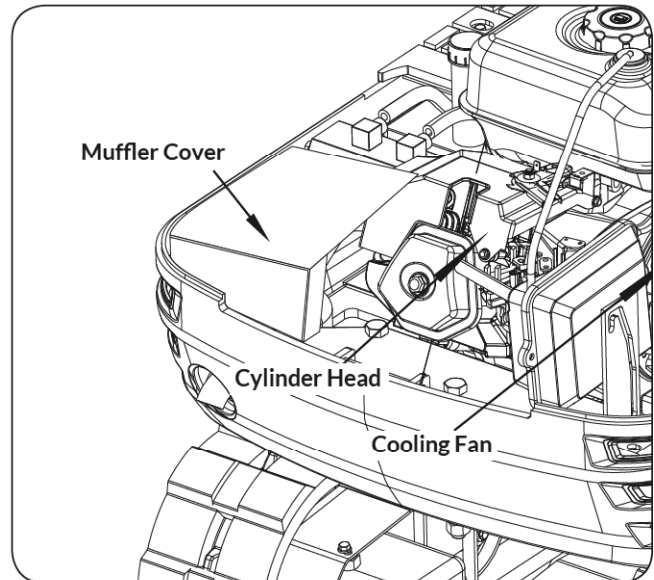

Figure 86
2. Check whether the muffler chimney and muffler cover have oxidation. Check whether the insulation layer of muffler cover is complete. (See **Figure 86**)